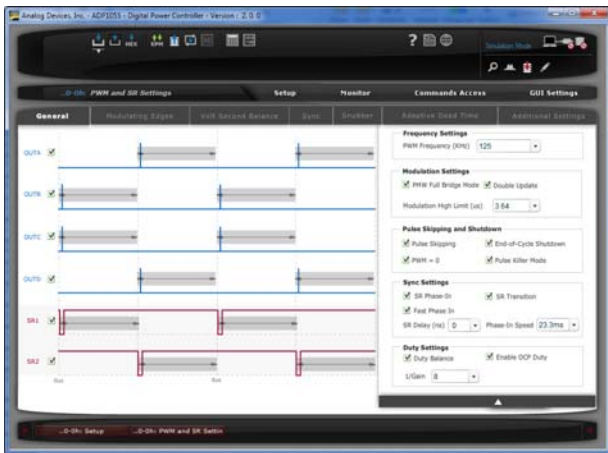

Figure 17. PWM and SR Window (Full Bridge Hard Switching)
- All the signals shown in Figure 17 represent the signals at the output pins of the IC.
In Figure 17, a typical PWM configuration for a full bridge hard switching topology is provided with modulation on the falling edges of OUTA to OUTD and on the rising edge of SR1 and SR2. The synchronous rectifiers in light load mode (LLM) have an independent setting as shown in Figure 18.